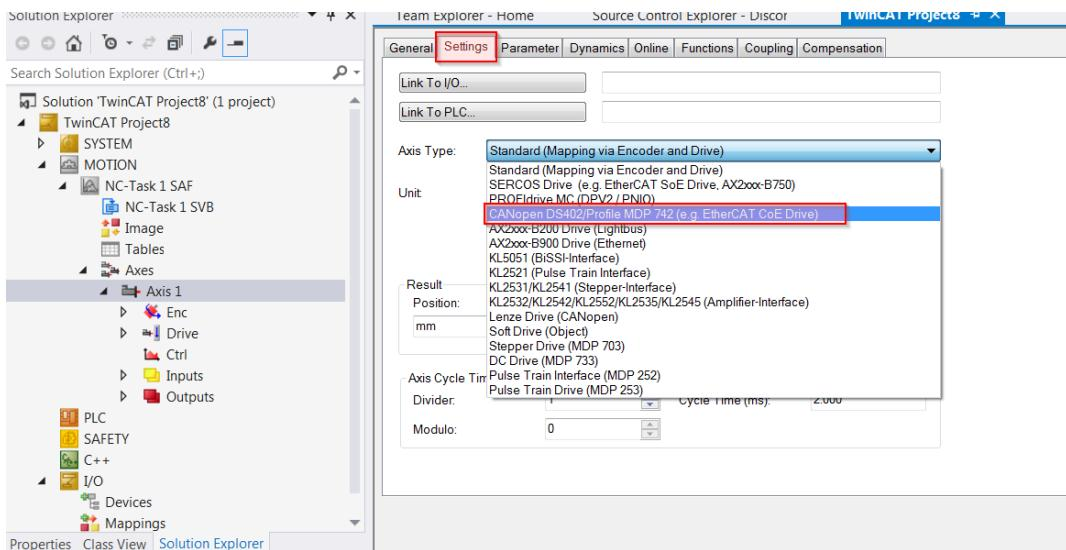

Figure 41: TwinCAT 3 CiA402 axis setup
- TwinCAT 3 :** Open the context menu of the MOTION TreeItem -> “Add New Item” -> Type “NC/PTP NCI Configuration” -> Open the context menu of the new created “Axes” TreeItem -> “Add New Item” -> Type “Continuous Axis” -> set Axis type to “CANopen DS402” (see Figure 41: TwinCAT 3 CiA402 axis setup).